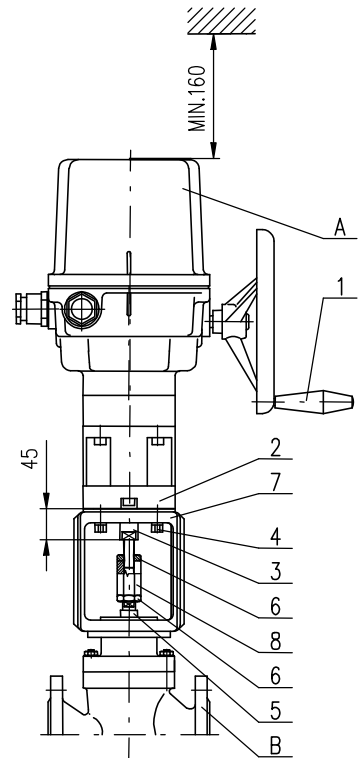

Fig. 1
- Set the actuator (A) and the valve (B) to the position "closed".
- Put the actuator (A) onto the valve (B) to have the actuator shaft (3) leant onto the valve coupling (8).
- Turn the valve output shaft (5) to connect the stem with the valve output shaft having the actuator flange (2) sitting on the valve flange (7).
- Tighten the screws (4) with the cross system to connect the actuator flange (2) with the valve flange (7).
- Check connection dimensions in accordance with Fig. 1.
- Turn the valve output shaft (5) by one revolution and lock it with the nut (6) (to create pre-stressing against the valve seat).